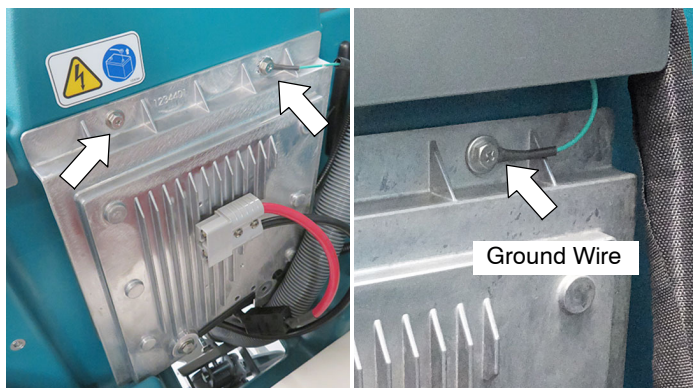

Fig. 12
- Re-install the heat-sink panel to the machine. Make sure to reconnect the ground wire to panel (Figure 12).